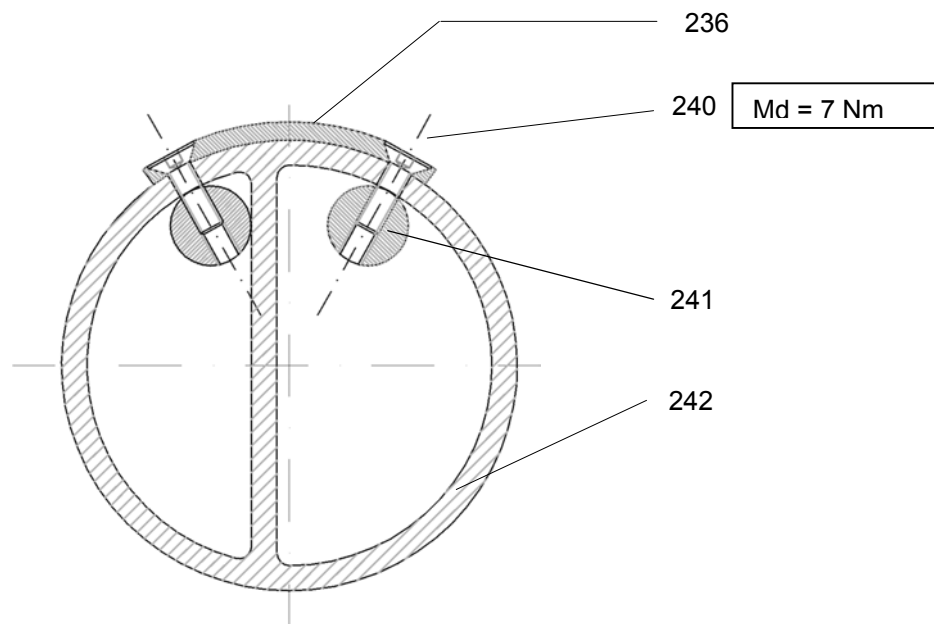

Figure 12 Replacement of contact strip 236
9.3 Replacement of Contact Strips 236 (Figure 12)